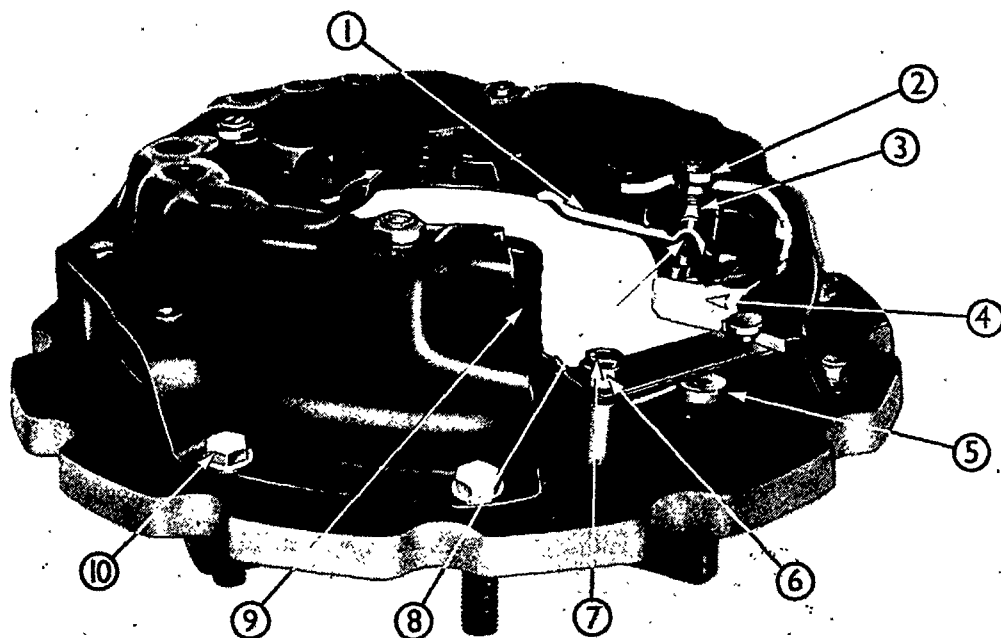

Figure 21
1. Clean the pressure plate and cover assembly thoroughly then locate the assembly centrally on the base plate, Figure 21, with the four clutch disc spacers, SW12B/8 or SW12B/10 between the pressure plate and the base of the
2. Secure the assembly to the base plate with the eight special tool bolts, Figure 21. Use special bolts SW12B/24
3. On 12 in. (30.5 cm.) and 13 in. (33 cm.) clutch assemblies, punch the ferrules, Figure 21, clear of the drive strap bolt heads and remove the bolts, using a socket through the holes in the cover.
4. Unscrew and remove the four nuts, Figure 21, which are staked to the release lever eyebolts.
6. Remove the coil springs from their locations on the pressure plate, Figure 21.
8. Withdraw the eyebolts from the release levers and remove the pivot pins, Figure 21.
4. Place the cover over the pressure plate making sure that the anti-rattle springs are correctly engaged in the cover and located over the release levers, Figure 21.
5. Position four of the appropriate disc spacers, Figure 21, on the base plate of the tool, one opposite each pair of mounting bolt holes. Use disc spacers SW12B/8 with an 11 in. (27.9 cm.) clutch and SW12B/10 with 12 in. (30.5 cm.) and 13 in. (33 cm.) clutches. Place the cover and
6. Install the eight special tool bolts, Figure 21, and tighten them down evenly until the cover meets the base plate. Use special bolts SW12B/25 with 12 in. (30.5 cm.) and 13 in. (33 cm.) clutches – use bolts SW12B/24 with an 11 in. (27.9 cm.) clutch.
8. On 12 in. (30.5 cm.) and 13 in. (33 cm.) assemblies, place new locking ferrules and drive bolts, Figure 21, into the drive straps and tighten to the specified torque (see "SPECIFICATIONS", Chapter 4) making sure that the ferrules are correctly located in the straps and pressure plate. Punch the ferrules over against the bolt heads to lock them in position.